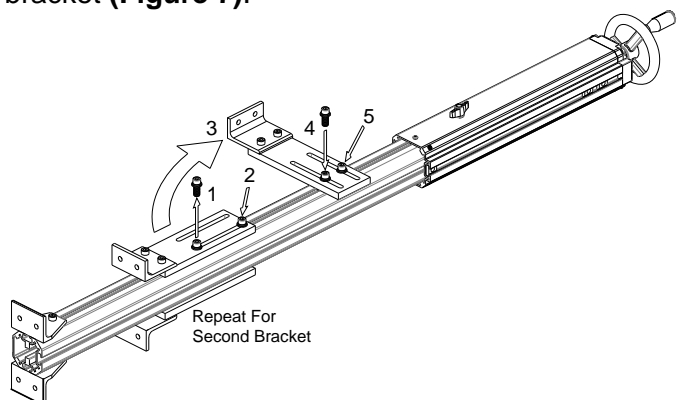

Figure 7
Once the floor mount has been unpacked the conveyor mounting brackets will need to be repositioned. Lay the mount on its side and remove the lower bolt (1) and loosen the upper bolt (2) on each bracket and rotate the bracket (3) into the position shown. Reinstall the lower bolt (4) and tighten the upper bolt (5). Repeat for the second bracket (**Figure 7**).